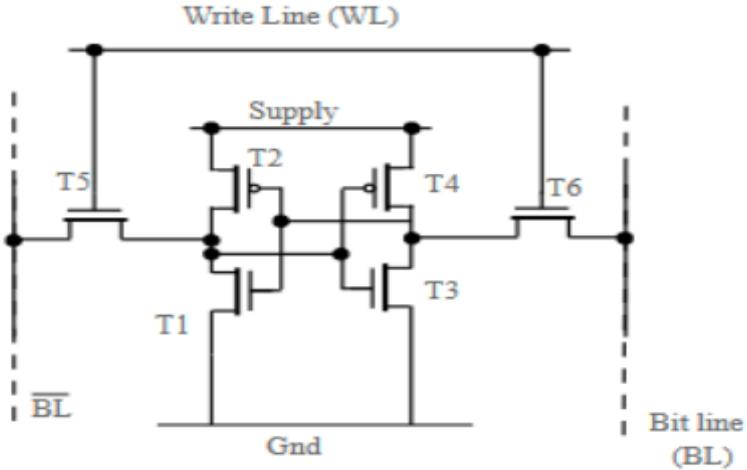

Figure 2: SRAM 6T cell
To design and characterize the basic 6T SRAM cell as shown in figure 2. The concept and working of SRAM is given here.
Recalling that the wordline and bitlines are held at VDD during a read, Figure 2 shows how to extract the read static noise margin (SNM) of the cell. First, the feedback from the cross coupled inverters is broken. Next, the VTC of the “inverter” formed by half of the SRAM cell is found by sweeping **V₁** (the inverter’s input) from 0 to VDD and measuring **V₂** (the inverter’s output). This plot is then used to construct the “butterfly plot” that is representative of the two halves of the cell driving each other. The read SNM is the side length of the maximum possible square that can fit inside of the butterfly plot. You do not have to calculate the size of this maximum square, but you should submit the butterfly
3. **Pre-charge Transistors:** After every read operation, the bitlines need to be pre-charged back to VDD - this is easily achieved by connecting a PMOS pre-charge transistor to each of the bitlines. Figure 2 shows a schematic of the pre-charge transistors connected to one column of the SRAM. Typically, the precharge transistors would be physically placed at the top of the SRAM array, so the dimensions of the cell containing these devices should match the width of the SRAM cell. You are free to size the pre-charge transistors as you like, but you must make sure that the time it takes for the bitlines to get precharged to within 10% of VDD is less than the total critical path delay through your adder and decoder.